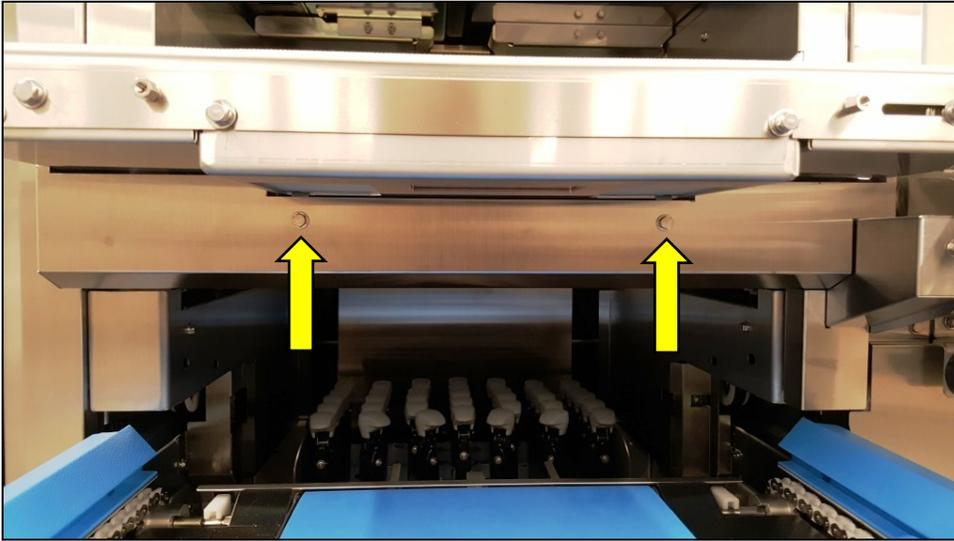

Figure 4. Lower Discharge Conveyor Cover
7. Remove the lower discharge conveyor cover (two 7mm bolts). See Figure 4.